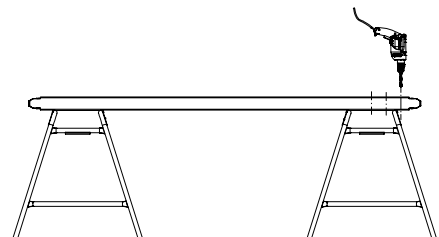

Fig. 4
2. Drill into chord, \varnothing 12 mm. (Fig. 4)